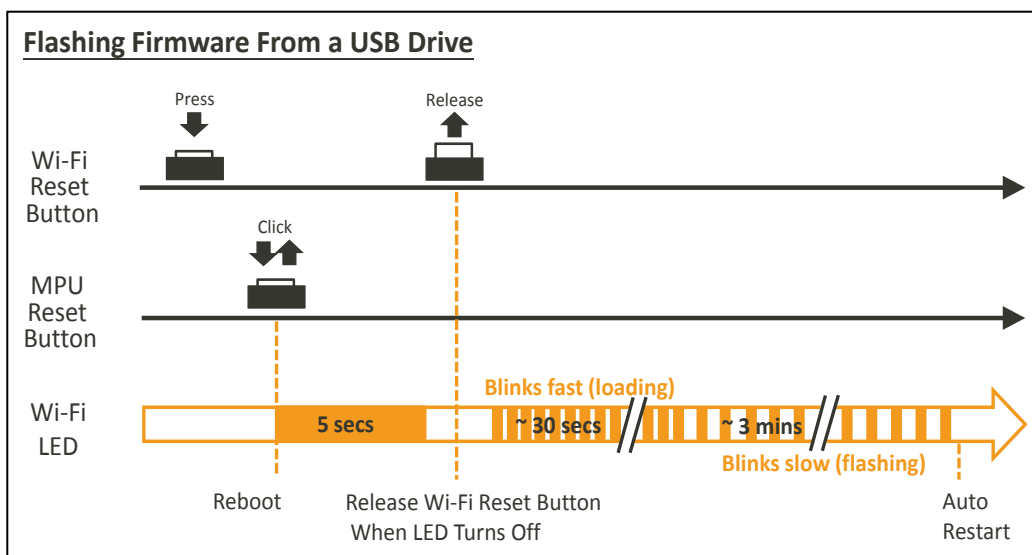

Figure 27 Wi-Fi LED Status During Firmware Upgra
- Press the Wi-Fi and MPU (Reset) button, then release the MPU Reset button only but hold the Wi-Fi button for at least 5 seconds and release (Wi-Fi LED turns off), see Figure 27 for detailed LED status. Do not press the Wi-Fi button for longer than 20s or it will upgrade the bootloader.